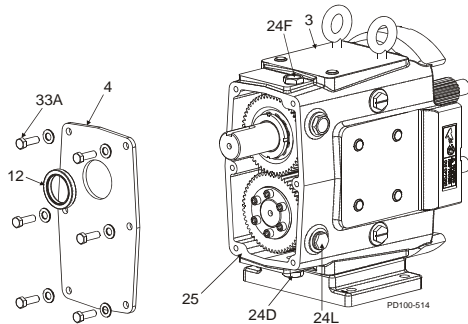

Figure 35 - Remove Gear Case Cover
1. Remove the oil drain plug (Figure 35, item 24D); drain the oil.
2. Remove the cap screws from the gear case (item 33A).